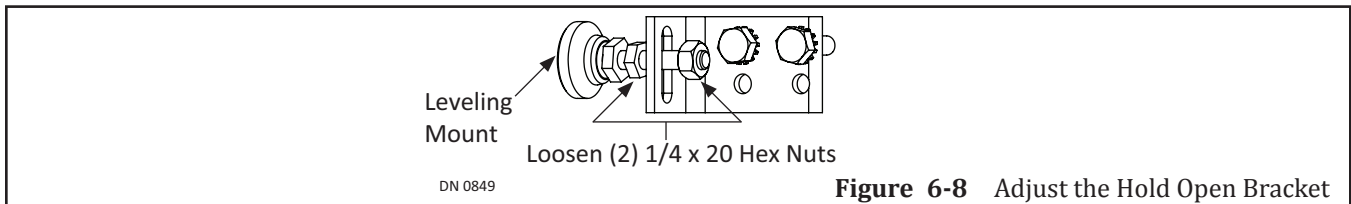

Figure 6-8 Adjust the Hold Open Bracket
3. Loosen (2) Hex nuts on the Magnetic Strike. Please see Figure 6-8.